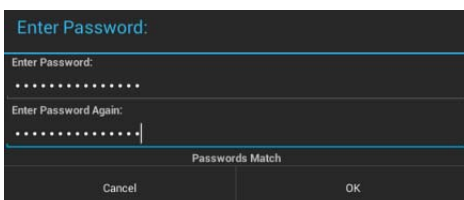

FIG. 82 Enter Password window
4. Press **OK** to invoke the *Enter Password* window (FIG. 82): .